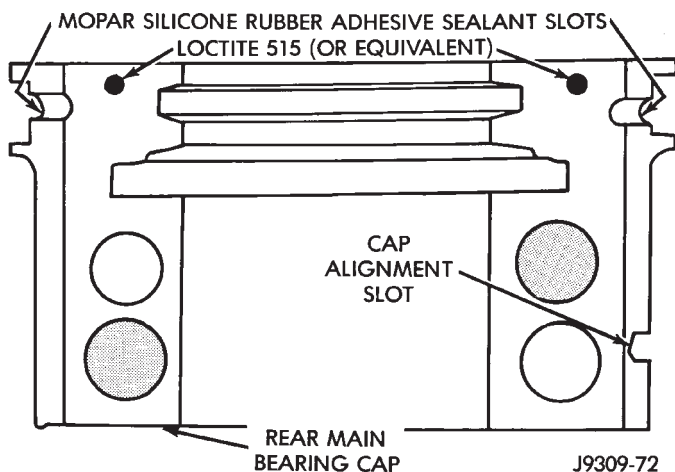
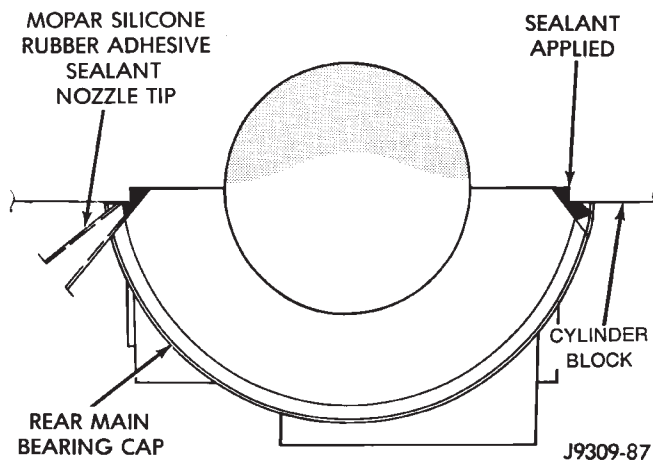

Fig. 18 Sealant Application to Bearing Cap
Fig. 19 Apply Sealant to Bearing Cap to Block Joint
- (1) Remove the crankshaft.
- (2) Lightly oil the new upper seal lips with engine oil.
- (3) Install the new upper rear bearing oil seal with the yellow paint facing towards the rear of the engine.
- (4) Position the crankshaft into the cylinder block.
- (5) Lightly oil the new lower seal lips with engine oil.
- (6) Install the new lower rear bearing oil seal into the bearing cap with the yellow paint facing towards the rear of the engine.
- (7) Apply 5 mm (0.20 in) drop of Loctite 515, or equivalent, on each side of the rear main bearing cap (Fig. 18). Do not over apply sealant or allow the sealant to contact the rubber seal. Assemble bearing cap to cylinder block immediately after sealant application.
- (8) To align the bearing cap, use cap slot, alignment dowel and cap bolts. Do not remove excess material after assembly. Do not strike rear cap more than 2 times for proper engagement.
- (9) Clean and oil all cap bolts. Install all main bearing caps. Install all cap bolts and alternately tighten to 115 N•m (85 ft. lbs.) torque.
- (10) Install oil pump.
(11) Apply Mopar Silicone Rubber Adhesive Sealant, or equivalent, at bearing cap to block joint to provide cap to block and oil pan sealing (Fig. 19). Apply enough sealant until a small amount is squeezed out. Withdraw nozzle and wipe excess sealant off the oil pan seal groove.
(12) Install new front crankshaft oil seal.
(13) Immediately install the oil pan.
- (1) Remove the oil pan.
- (2) Remove the oil pump from the rear main bearing cap.
- (3) Remove the rear main bearing cap. Remove and discard the old lower oil seal.
- (4) Carefully remove and discard the old upper oil seal.
- (5) Lightly oil the new upper seal lips with engine oil. To allow ease of installation of the seal, loosen at least the 2 main bearing caps forward of the rear bearing cap.
- (6) Rotate the new upper seal into the cylinder block being careful not to shave or cut the outer surface of the seal. To assure proper installation, use the installation tool provided with the kit. Install the new seal with the yellow paint facing towards the rear of the engine.
- (7) Install the new lower rear bearing oil seal into the bearing cap with the yellow paint facing towards the rear of the engine.
- (8) Apply 5 mm (0.20 in) drop of Loctite 515, or equivalent, on each side of the rear main bearing cap (Fig. 18). Do not over apply sealant or allow the sealant to contact the rubber seal. Assemble bearing cap to cylinder block immediately after sealant application. Be sure the yellow paint faces toward the rear of the engine.
- (9) To align the bearing cap, use cap slot, alignment dowel and cap bolts. Do not remove excess ma-
(10) Install the rear main bearing cap with cleaned and oiled cap bolts. Alternately tighten ALL cap bolts to 115 N•m (85 ft. lbs.) torque.
(11) Install oil pump.
(12) Apply Mopar Silicone Rubber Adhesive Sealant, or equivalent, at bearing cap to block joint to provide cap to block and oil pan sealing (Fig. 19). Apply enough sealant until a small amount is squeezed out. Withdraw nozzle and wipe excess sealant off the oil pan seal groove.
(1) Remove the oil pan.
(2) Remove the oil pump from the rear main bearing cap.
(3) Remove the rear main bearing cap and discard the old lower seal.
(4) Carefully install a new upper seal (refer to Upper Seal Replacement - Crankshaft Installed procedure above).
(5) Lightly oil the new lower seal lips with engine oil.